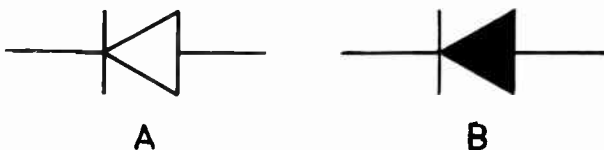

FIG. 6-9. SEMI-CONDUCTOR DIODE SYMBOLS.
**SOLID-STATE DIODES.** Not all diodes have their electrodes separated by a vacuum, or a conductive gas as in some special tubes. There are diodes that use oxide layers or metallic alloys. These diodes are called SEMICONDUCTORS. Semiconductors pass current freely in one direction and allow little or no current to flow in the opposite direction. Almost all semiconductor diodes are indicated by the symbol in Fig. 6-9. Variations of this symbol are used to indicate special purpose diodes.